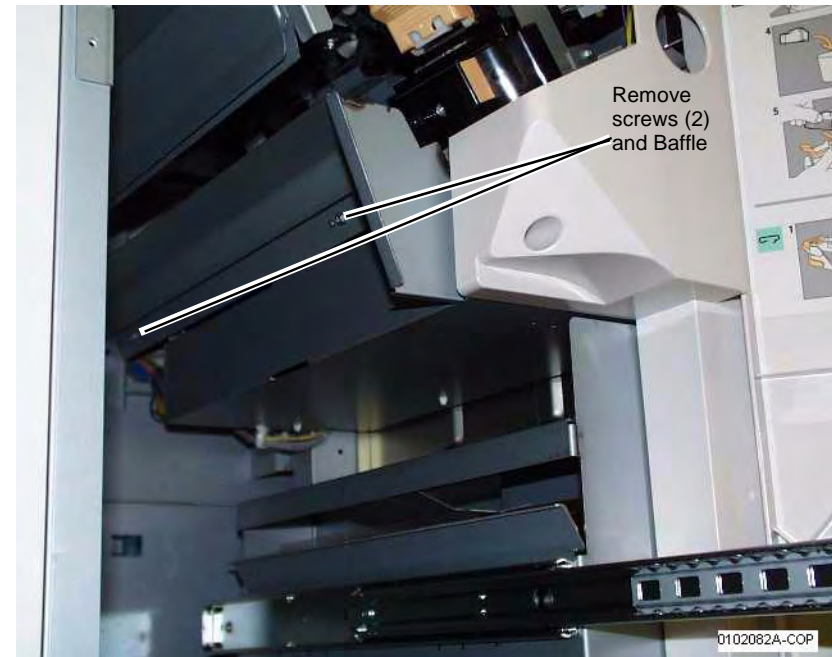

Figure 1 Removing Baffle
3. Remove the Baffle (Figure 1).